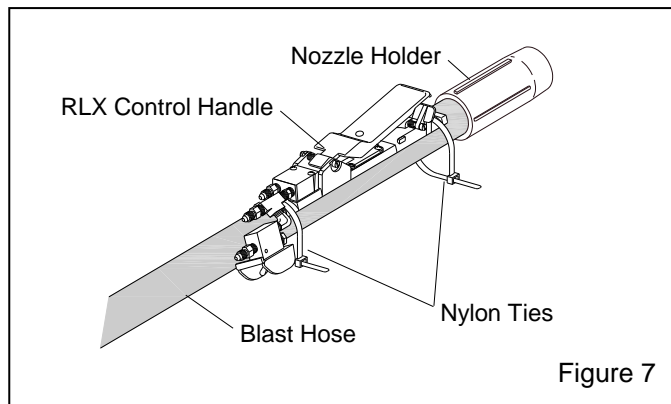

Figure 7
2.3.2 Band the control handle to the blast hose close to the nozzle holder as shown in Figure 7. Use the two nylon ties provided or similar means to secure the control handle to the hose. Once the handle control is firmly attached, clip the tie ends so they do not snag the operator's clothing or interfere with the operation of the control handle.